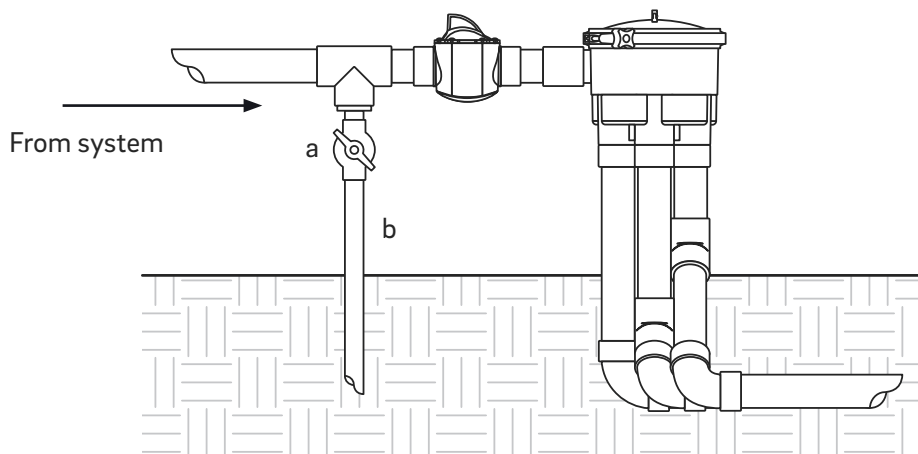

Figure 4
2. To deliver water to the venturi nozzle inside the skimmer, install a Tee fitting on the return line after the filter and before the in-floor valve (Figure 4). Following the branch of the Tee, add a 2-way shut-off valve (Figure 4a) and a minimum of 1 inch schedule 40 PVC (Figure 4b) as the feed line to the QuikSkim Ultra's venturi nozzle; reduce the pipe size as needed.
Proper flow to the venturi nozzle can be set by adjusting the shut-off valve installed before the water-valve (Figure 4).
Shut off flow to the venturi line completely by closing the shut-off valve installed on the return line before the water-valve (Figure 4).